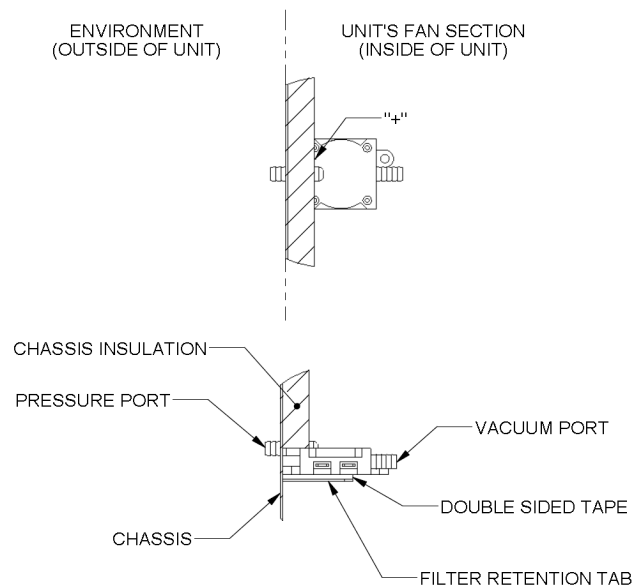

Figure 12b
- Secure differential air pressure switch on the filter retention tab using double sided tape. Position the pressure port (marked with “+”) outside the chassis exposed to the environment. The vacuum port should extend inside the chassis and be open to the unit’s fan section. (See figure 12b.)